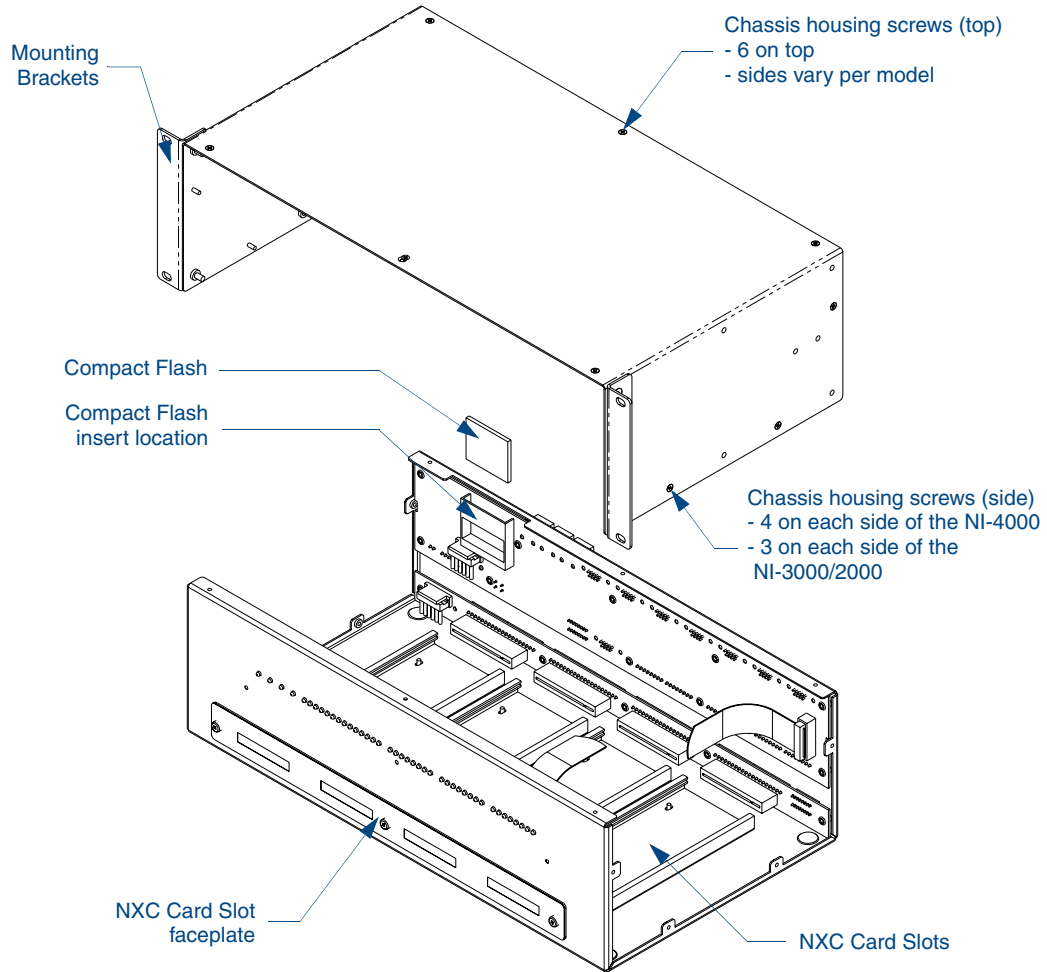

FIG. 3 Location of the Compact Flash within a sample Integrated Controller
2. Remove the chassis housing screws from both the sides and top of the Controller, as shown in FIG. 3 by using a grounded screwdriver turning in a counter-clockwise rotation.
3. Carefully pull-up and remove the housing up and away from the Controller to expose the internal circuit board (FIG. 3).
2. Locate the 32 MB Compact Flash card on the main board. For more detailed information on component locations, refer to FIG. 3.
- Insert and secure the chassis housing screws back into their respective locations, as shown in FIG. 3 by using a grounded screwdriver.